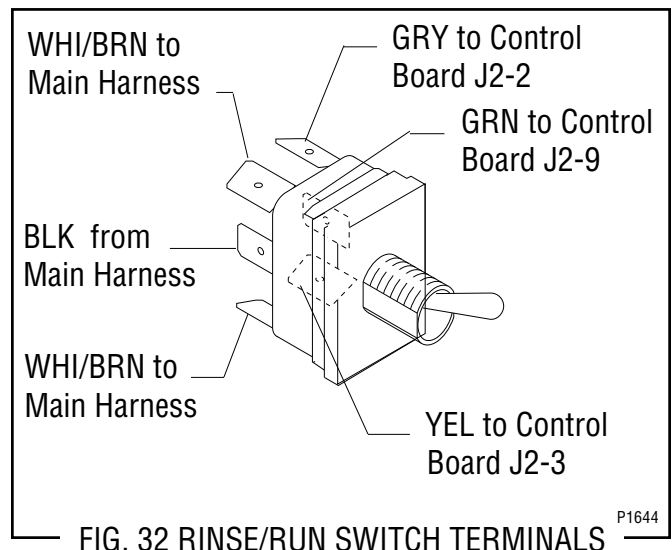

FIG. 32 RINSE/RUN SWITCH TERMINALS
5. Refer to Fig. 32 when connecting the wires to the new switch.